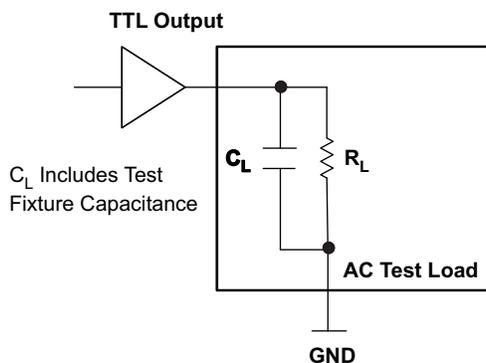

Figure 4. TTL Output AC Test Loading Condition
(1) The device will meet the specifications after thermal equilibrium has been established when mounted in a test socket or printed circuit board with maintained transverse airflow greater than 500 lfm. Electrical parameters are assured only over the declared operating temperature range. Functional operation of the device exceeding these conditions is not implied. Device specification limit values are applied individually under normal operating conditions and not valid simultaneously.
(2)  $R_L = 500\ \Omega$  to  $GND$  and  $C_L = 20\text{ pF}$  to  $GND$ . See Figure 4. Measured with 750mV, 50% duty cycle clock source
(3) Skews are measured between outputs under identical transitions